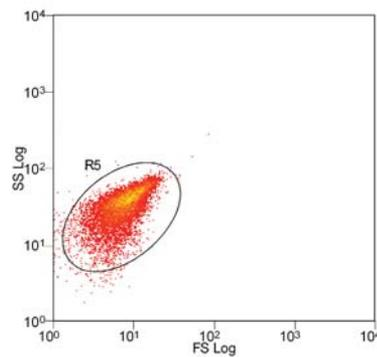
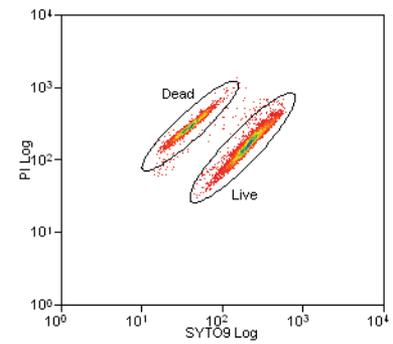
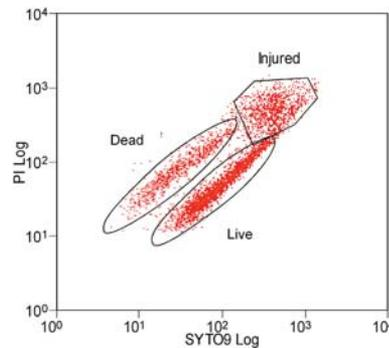
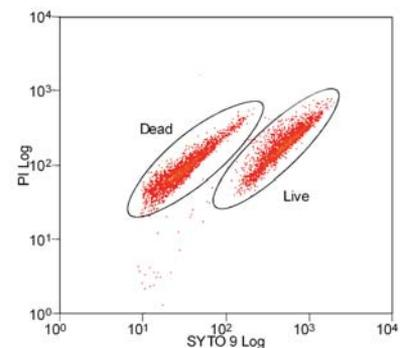

Figure 1
Figure 2
Figure 3
Figure 4
Data were collected on a CyAn ADP 9 Color with standard filters using the 488 nm laser excitation. The bacteria population was isolated on a FS Log versus SS Log plot (Figure 1) using a FL1 trigger, which was then gated onto subsequent plots. The BacLight stained live/dead populations can be identified using FL1 Log (SYTO 9) versus FL3 Log (PI). Figure 2 shows the live/dead populations of an *E.coli* control sample. Figure 3 demonstrates the viability of a 7-day-old *E.coli* culture. This procedure was also tested on the malolactic bacteria *Oenococcus oeni*; its staining pattern is demonstrated in Figure 4.